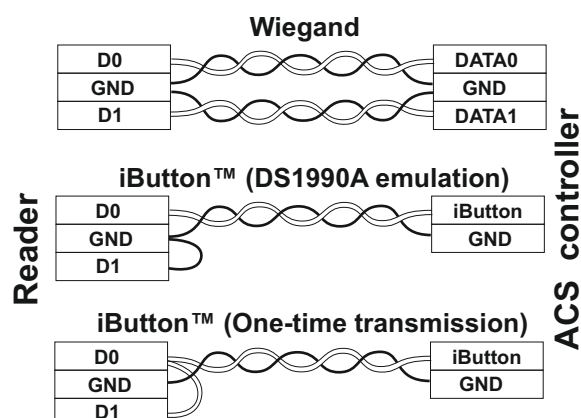

Figure 2. Choosing the transmission protocol.
- To select the protocol for data transfer to controller, connect DATA0 and DATA1 wires as per Fig. 2.
- When connecting via Wiegand, first twisted pair connects to GND and DATA0, and the second to GND and DATA1 (See Fig. 2).